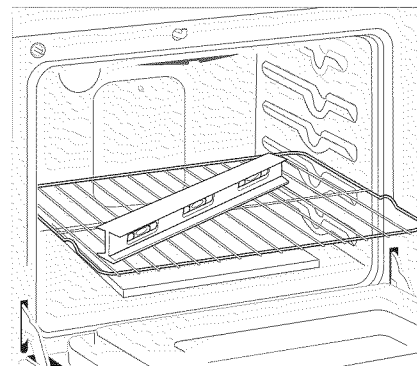

Figure 12
3. Check if the range is level by installing an oven rack in the center of the oven and placing a level on the rack (Figure 12).
2. Place a level on the rack (see Figure 12). Take 2 readings with the level placed diagonally in one direction and then the other. Level the range, if necessary, by adjusting the 4 leg levelers with a wrench (see Figure 20).